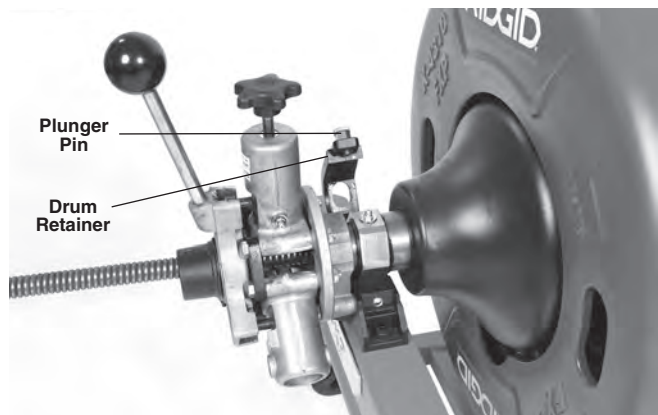

Figure 8 – Opening Drum Retainer
1. Pull the plunger pin and open the drum retainer (*Figure 8*).